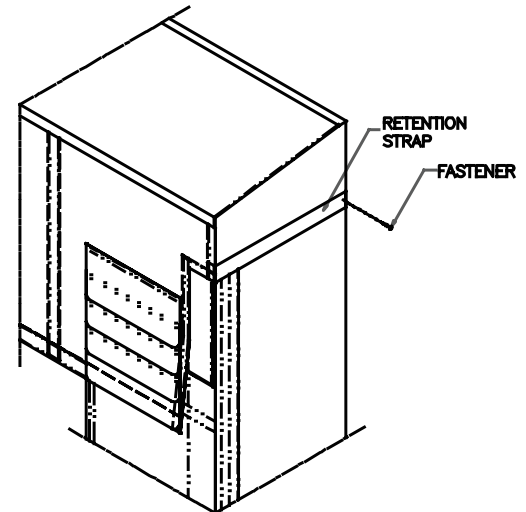

FIGURE 3
2. Line the curtain face up with the outside edges of the unit. (See Figure 3)
5. Once the curtain face is attached properly, finish by attaching the face retention strap to the side frame backer board. Use the supplied roofing nail. **(Note: If retention strap lands in area on header mounting bracket, attach using existing woods screws that secure mounting bracket to backer board, or use a tek-screw and attach to mounting bracket itself) Figure 3**